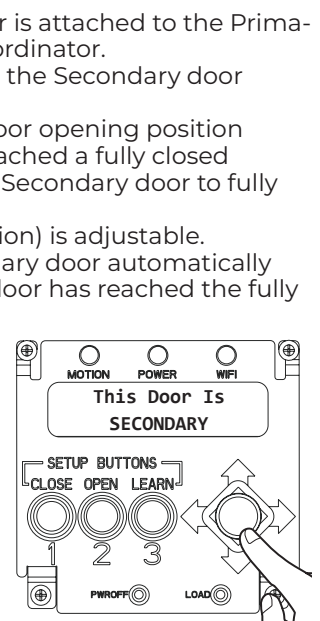

Figure 22
Screen will display “YES (NOT LINKED)” until properly set up. (Figure 22)
- **This Door is** = SECONDARY (Figure 22)